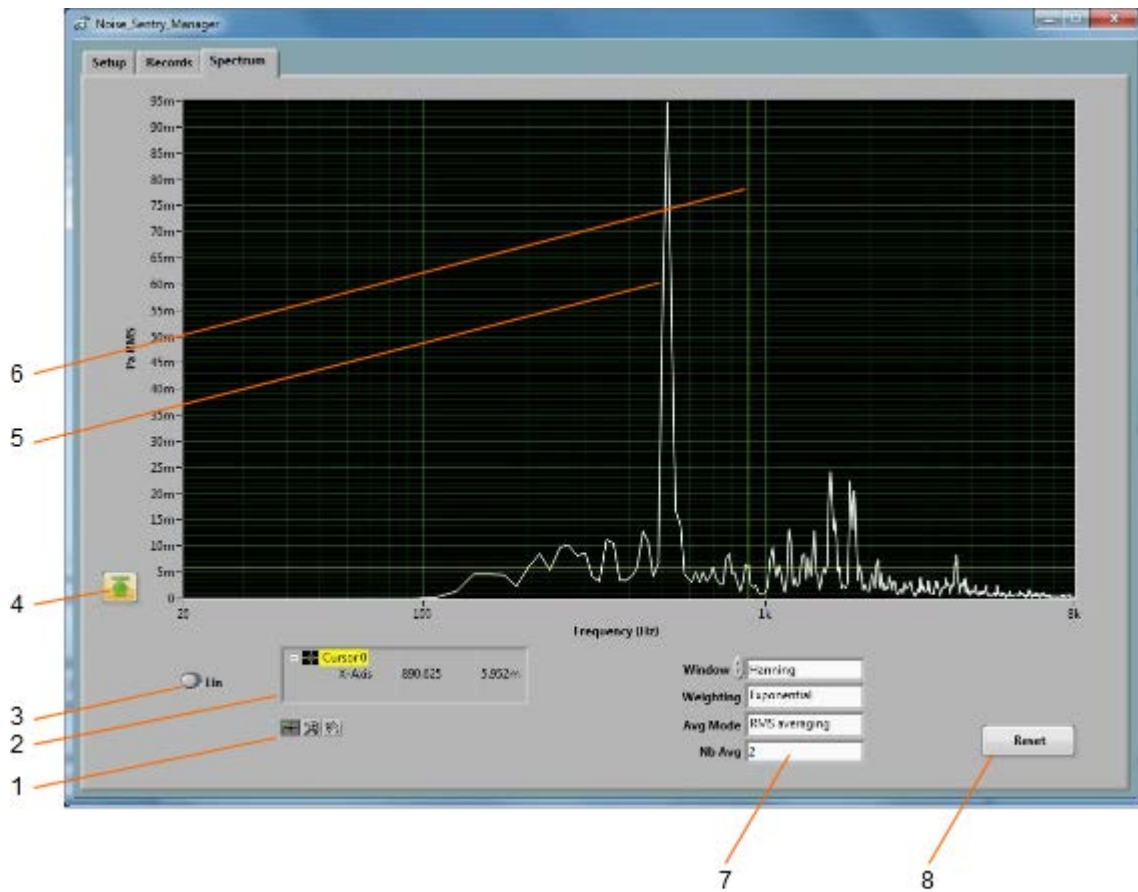

Figure 6 **Spectrum Tab**
- **The Spectrum Tab:** Is used to display a real-time power spectrum from the Noise Sentry RT (see Figure 6).